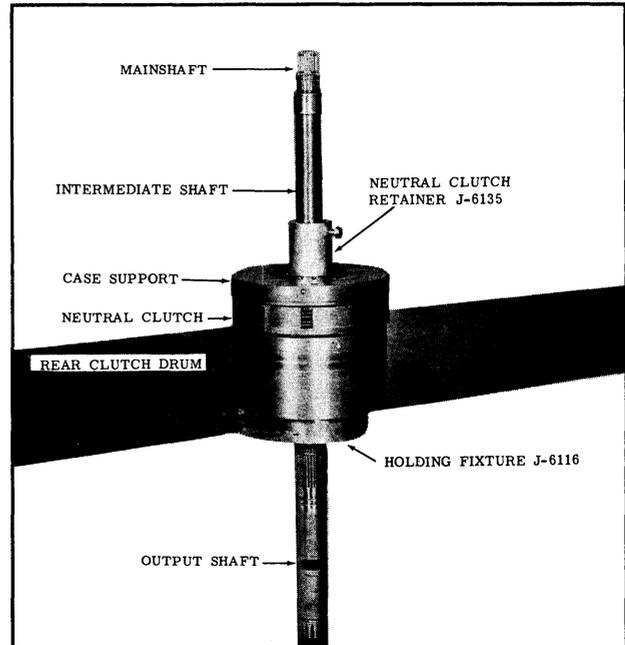

Fig. 3-43 Assembly in Holding Fixture
4. Place assembly in holding fixture J-6116, output shaft down. (See Fig. 3-43)